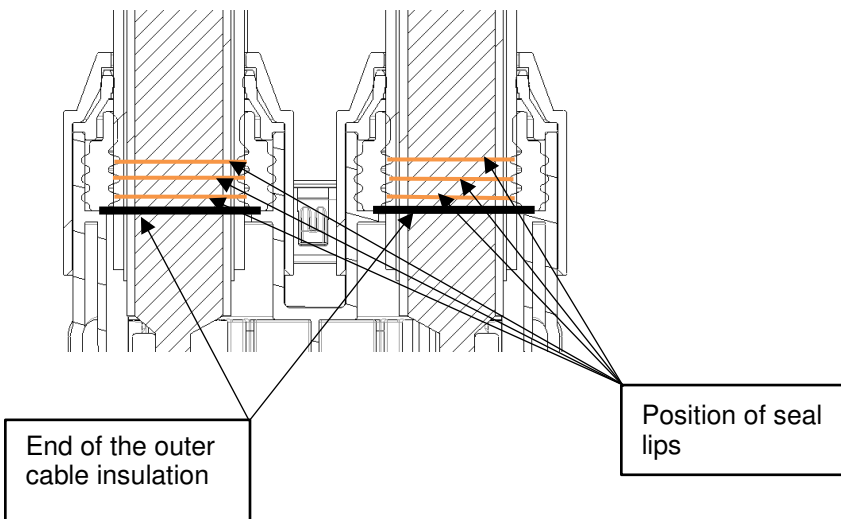

Figure 36b – DC seal lips
**ATTENTION:** Ensure that the DC power cables are well positioned in the CHARGE INLET HSG, DC SINGLE WIRE SEAL, that all seal lips are safely placed on the outer isolation of the cables. (Figure 36b)